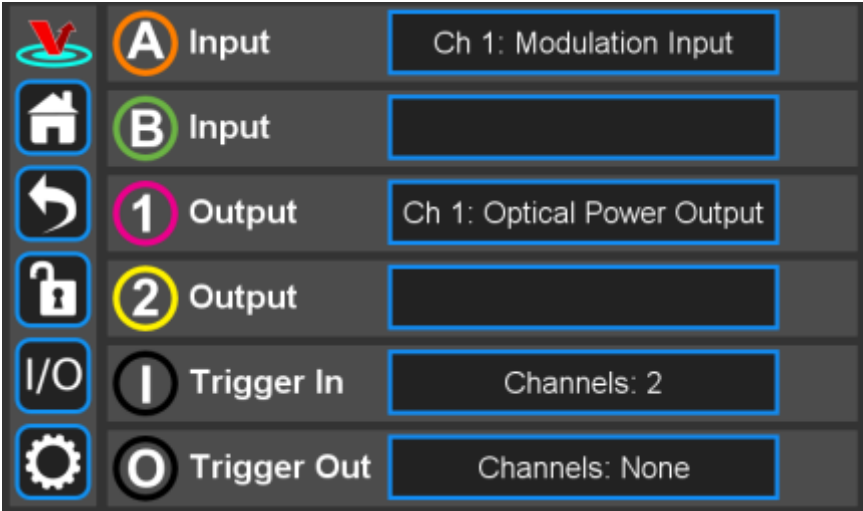
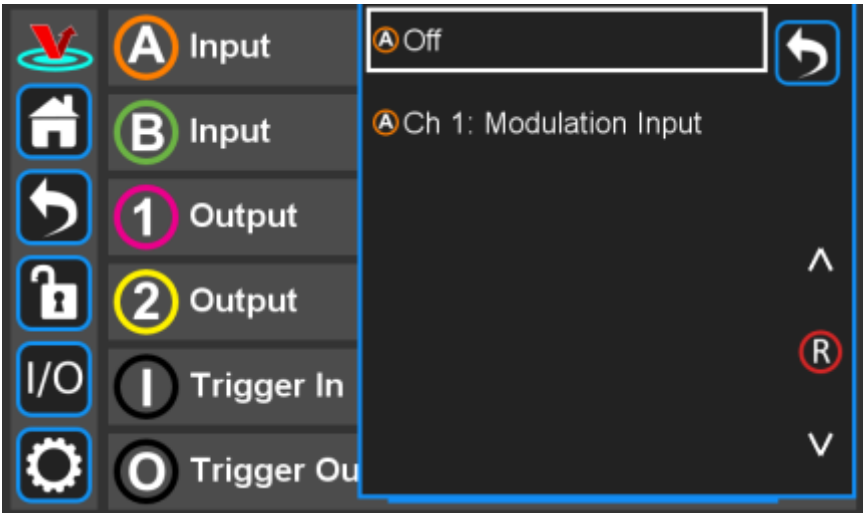
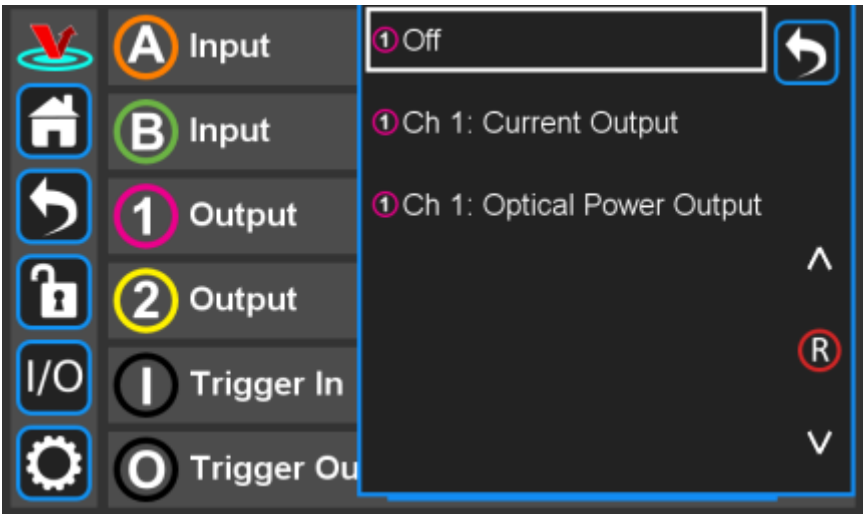

Fig. 28: I/O programming window
Fig. 29: Input choice for front-panel input
Fig. 30: Output choices for front-panel input
The SLICE-DCC has two programmable inputs (labelled A & B) and two programmable outputs (labelled 1 and 2) on the front panel. It also has a rear panel trigger input and trigger output. Touching the I/O icon on the control bar will open a screen similar to that seen in figure 28, From here, it is possible to assign control information input to the two inputs and system performance data to the two outputs,
From figure 28, if one touches either the A or B input window, the choices for input for that channel are presented (figure 29).
The only input option is a modulation signal. The SLICE-DCC can respond to a modulation or control signal over a bandwidth of DC to 1 MHz. Only one of the two modulation input ports (rear-panel SMA, figure 3, item 9 or front-panel BNC, figure 2, item 2) can be active at any given time. Activating the front-panel input via the screen in figure 29 automatically disconnects the rear-panel input.
From figure 28, if one touches either the 1 or 2 output window, the choices for output for that channel are presented (figure 30).